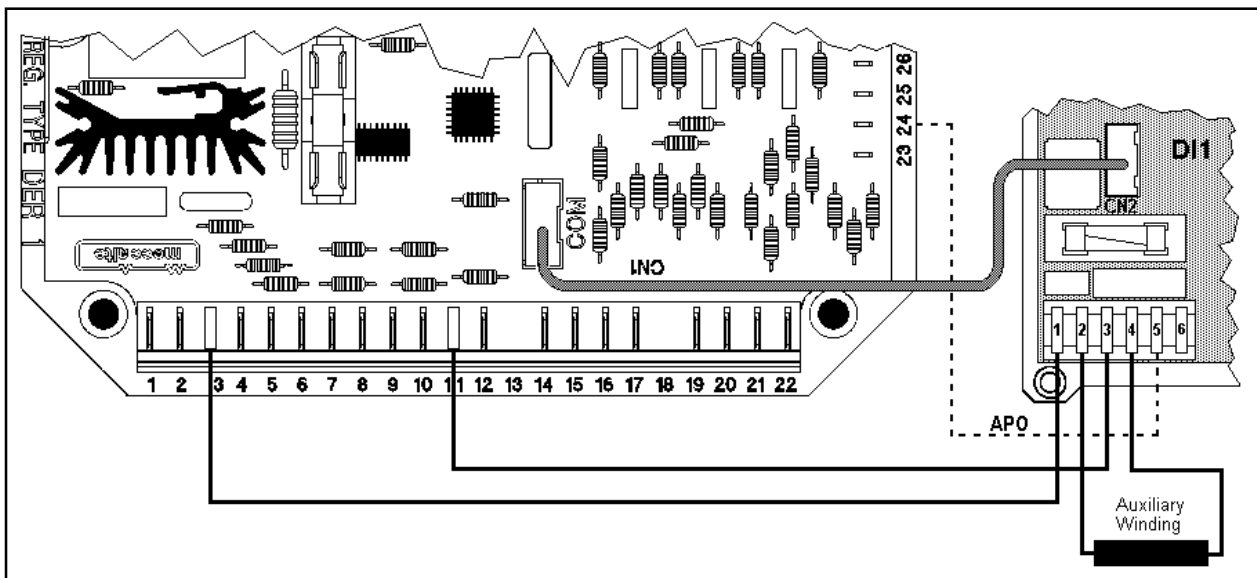

fig. 11: Example of power and connection (optional) of APO signal
The DI1 interface also permits isolation of the A.P.O. contact of the regulator : terminal 24 of the DER1 must be connected to terminal 5 of CN1 (as indicated with the dotted line in fig. 11).
- 1) On connector CN1 (terminals 1-2 and 3-4)⁽¹⁾ through the same power as the DSR/DER1; for this purpose, the power terminals on CN1 have been duplicated (Fig. 11)
2. **Settings** opens a window (as shown in figure 11), through which several parameters, concerning communications, can be set: